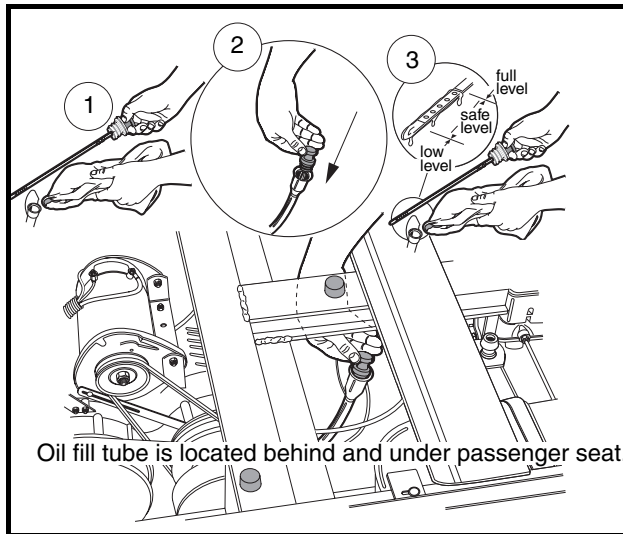
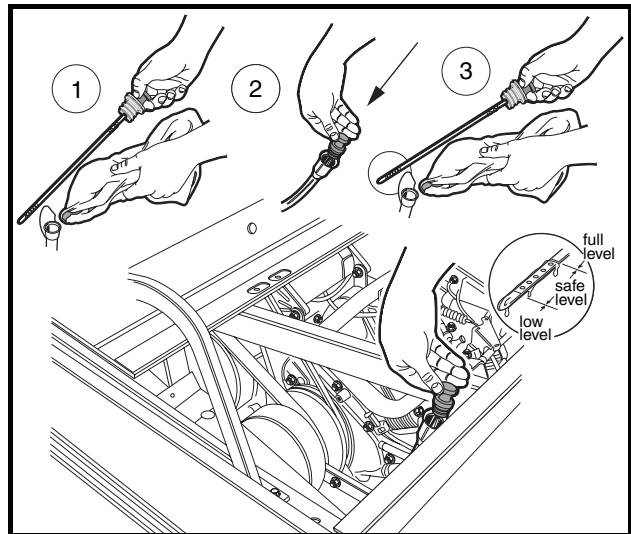

Figure 16 Engine Oil Level Check – 272 Vehicle
Figure 17 Engine Oil Level Check – 472 Vehicle
1. Remove the oil level dipstick from the oil filler tube and wipe oil from stick (**Figure 16 or Figure 17**). See following **CAUTION**.